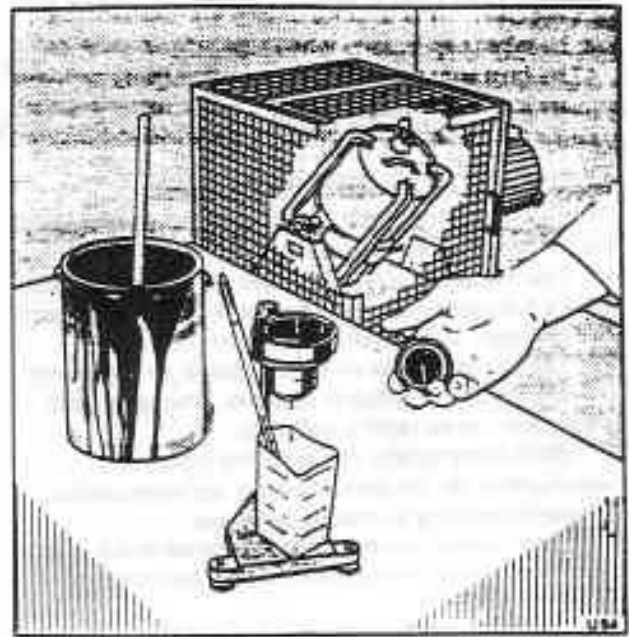

Fig. S17-8 Making a viscosity check
3. Thin to the recommended viscosity and check with a viscosity cup (see fig. S17-8).
2. Before any thinners are added, ensure that the paint is at the recommended paint shop temperature of not less than 18°C (see fig. S17-8).
4. Thin with the correct proportion of thinners and then carry out a viscosity check (see fig. S17-8) as follows. This involves timing the flow of liquid through an orifice until the first break-point in the thread of liquid occurs.
- (f) Place a suitable receiver under the flow cup, remove the finger from the orifice and simultaneously start the stopwatch, stopping it when the stream of the paint sample first breaks (see fig. S17-8).